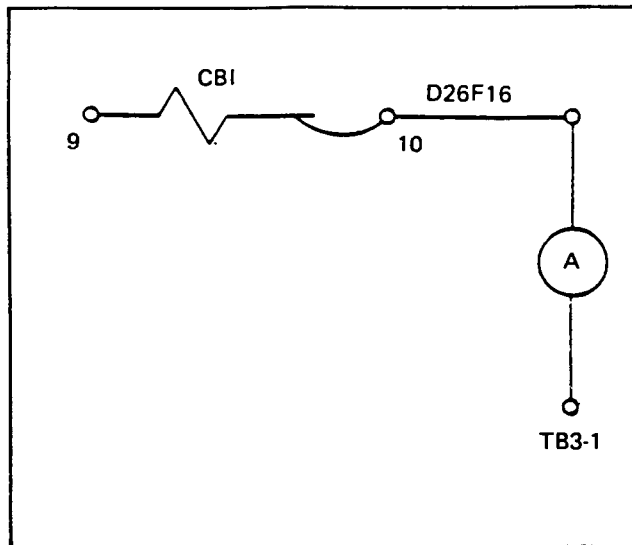

Figure 6-7. AC Output Control Box Test Setup
(2) Remove wire D26F16 from TB3-1 and connect 0 to 1 amp ac ammeter. Connect test ammeter as shown in figure 6-7.
(3) Place reconnection switch in 1200 position.